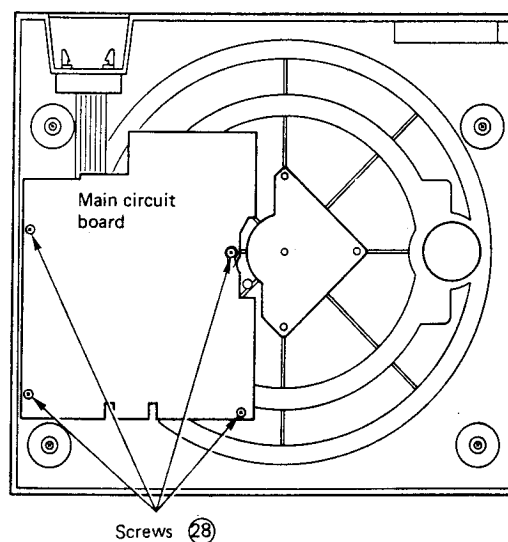

Fig. 24
- 2) As shown in Fig. 24, the main circuit board can be removed by removing the four screws (28).